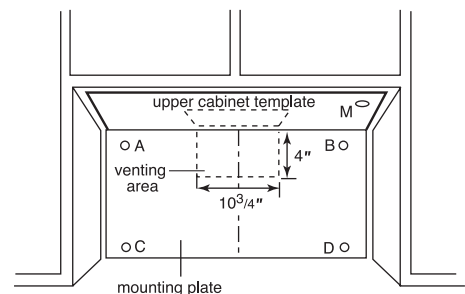

Figure 18
4. Using the mounting plate, mark the position for attaching it on the wall with pencil. If you want wall vented installation, mark the position of ventilation rectangular hole (10 3/4" X 4") on the wall too. See Figure 18.
5. Measure the bottom of the upper cabinet frame. Trim the edges power supply cord hole on the upper cabinet template so that the template will fit on the bottom of the upper cabinet. If upper cabinet has a recessed frame, trim the template so it fits inside the recessed area. Align the centerline of the upper cabinet template with the centerline of the wall template, then securely tape or tack the upper cabinet template in place. See Figure 18.
- WALL-VENTED: cut out the marked area on the wall. See Figure 18.